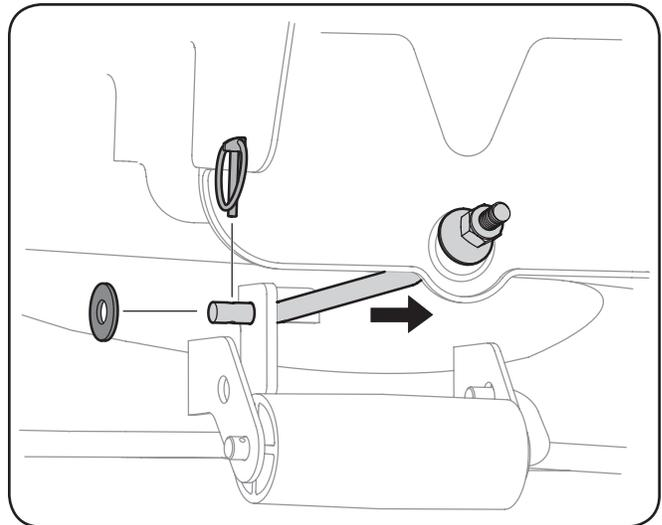

**Figure 7-4**
- Remove the bowtie cotter pin connecting the deck sway rod to the tractor frame. See Fig. 7-4.